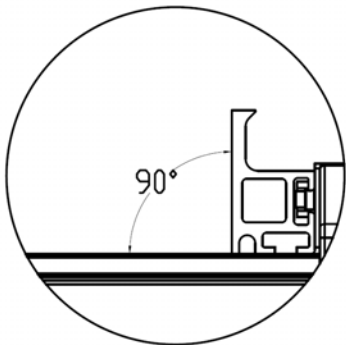

Fig.46
- a. To adjust the fence upright with the table surface, as *Fig.46*.